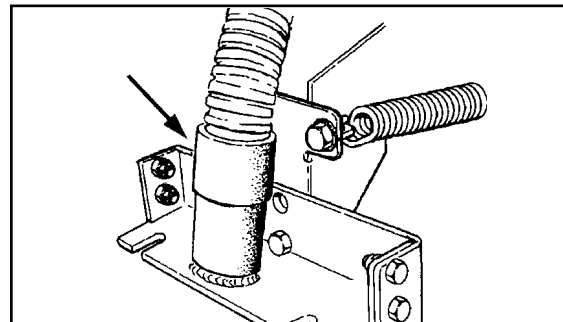

Figure 9
2. Attach the vacuum hose cuff to the squeegee hose fitting (see figure 9).
1. The squeegee body can be tilted to adjust the squeegee blade flare in the middle to match the flare on the ends. To adjust the tilt, loosen the adjusting bolt located on the left and right side of the squeegee (see figure 9).